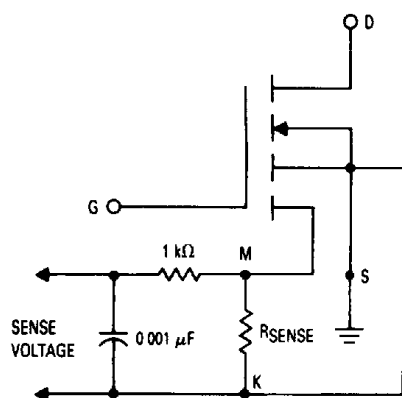

Figure 26. SENSEFET Device with Noise Suppression
- **Noise Suppression:** Switching noise is also a first order design issue. Layout, therefore, is critical. In addition, a single pole RC filter between  $R_{SENSE}$  and the current sensing circuitry's input terminals is often desirable. A 1  $\mu$ sec time constant is generally long enough to provide adequate noise suppression and short enough to provide adequate protection during overloads. An illustration is provided in Figure 26.